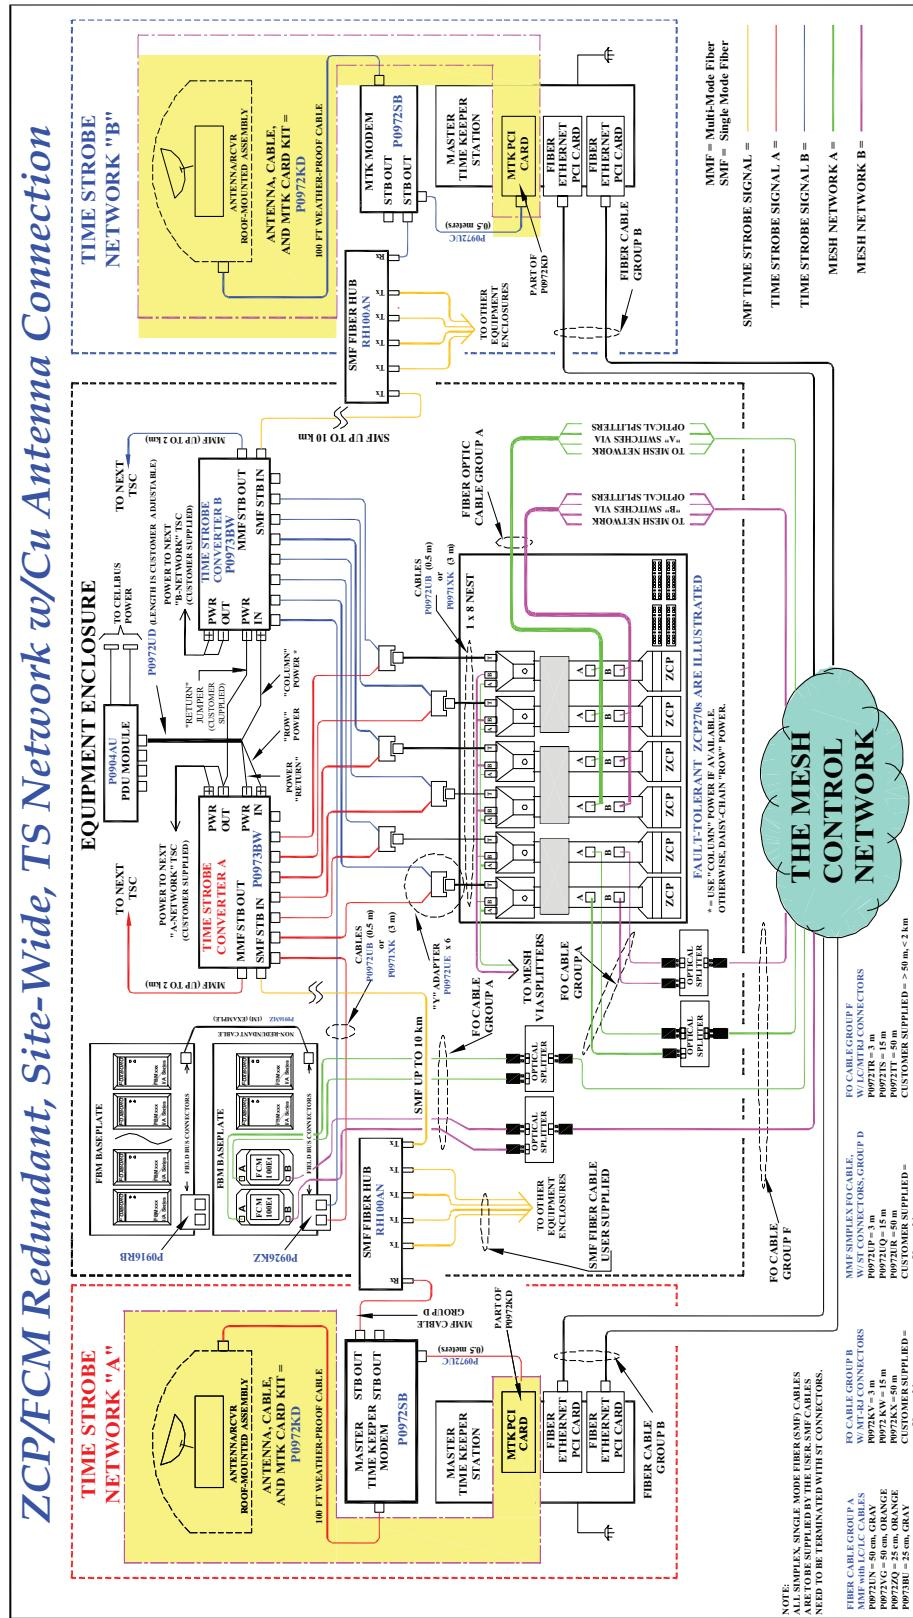

Figure A-12. Site-Wide Network - ZCP270 with Wire Antenna, Redundant Copper Cabling
- ◆ Site-Wide Time Strobe Network - ZCP270 with Wire Antenna Connection, Redundant Copper Cabling (Figure A-12).